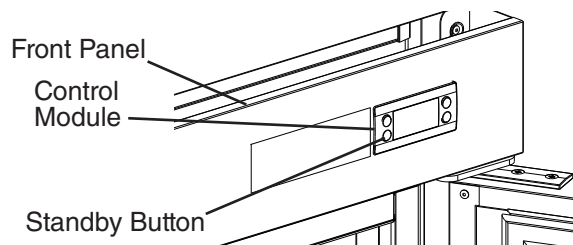

Fig. 65
- 2) If the cabinet temperature is not displayed on the control module, press and hold the standby button on the control module until "ON" appears in the display. See Fig. 65. Factory default is "ON".